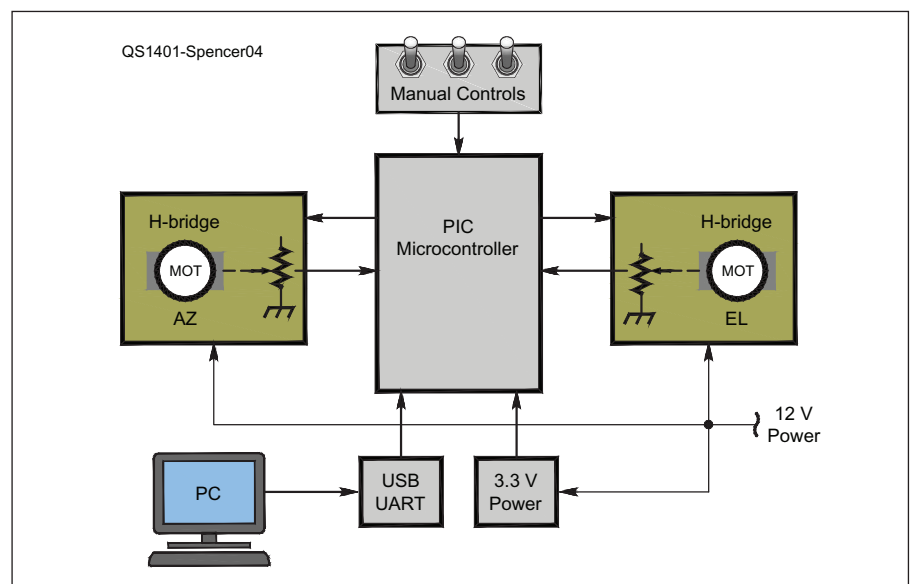
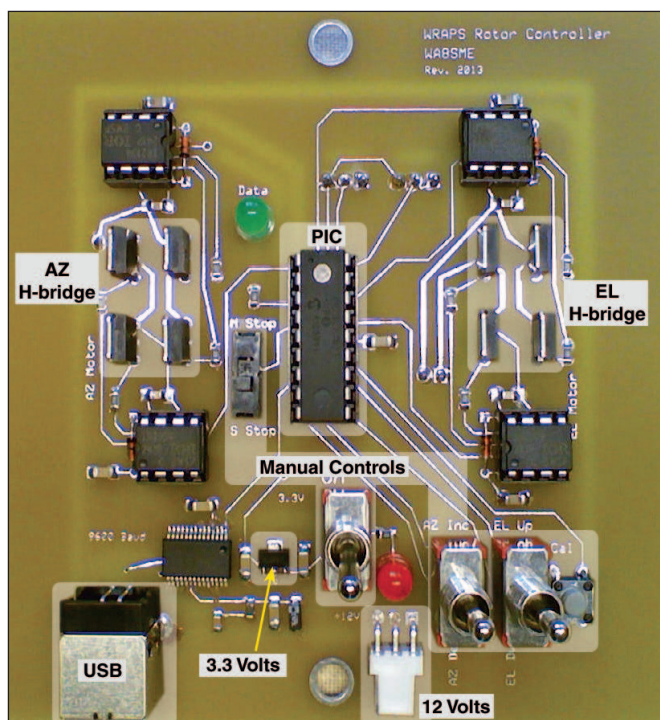

Figure 4 — Block diagram of the WRAPS rotator system.
Figure 5 — A completed WRAPS printed circuit board. [Graphic courtesy Mark Spencer, WA8SME]
Figure 4 shows a block diagram of the WRAPS circuitry. The completed circuit board is shown in Figure 5. The heart of
- Receives positioning commands from the satellite tracking program. [Which runs on the personal computer (PC) in Figure 4. — Ed.]
- Commands the motors ["MOT" in Figure 4. — Ed.] to turn in the proper direction.